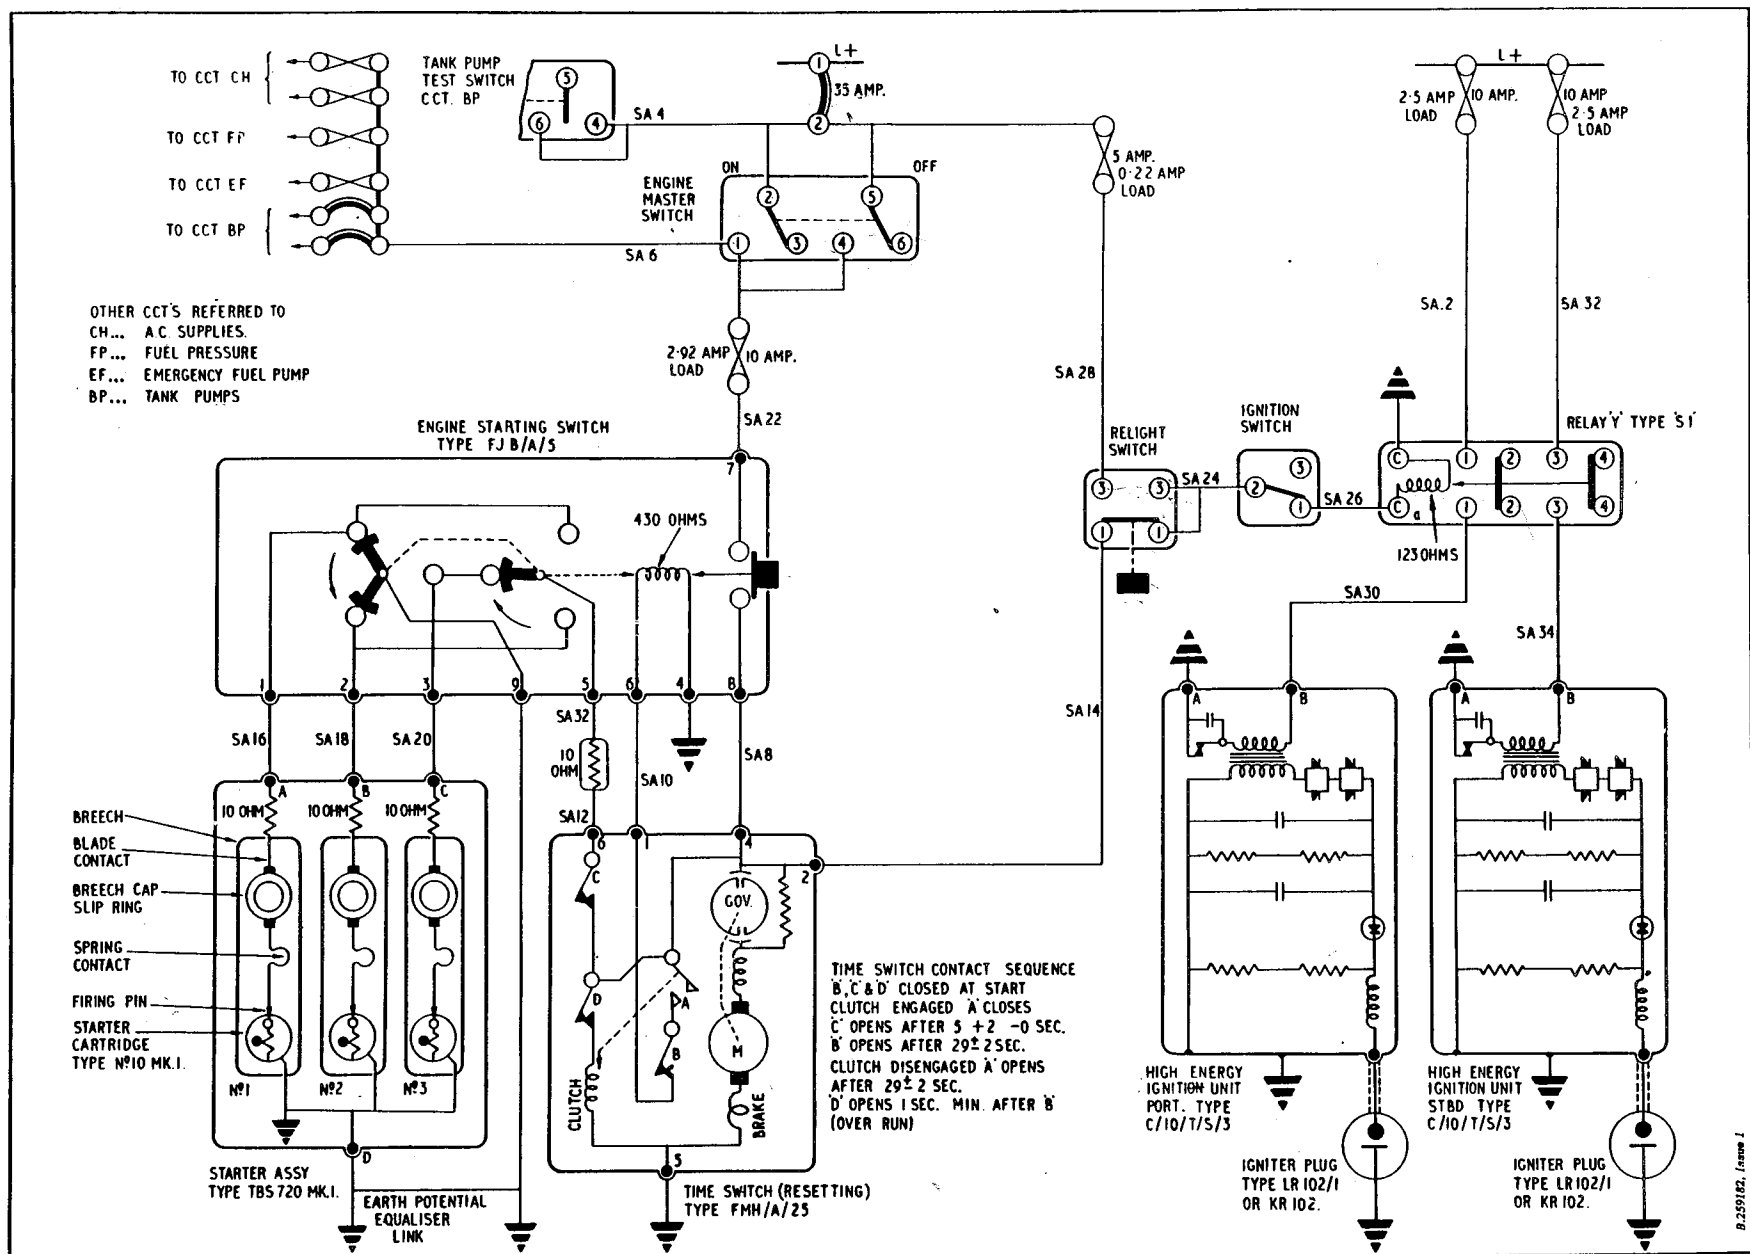

Fig.1 Engine starting (theoretical)
5. At the commencement of the starting cycle, contacts B, C, and D of the time switch (*fig.1*) are all closed, but the clutch is disengaged and contacts A are open. When the engine starting switch push-button is pressed, the firing circuit to one of the three cartridges in the turbo-starter is selected by a rotary selector switch, which is mechanically inter-locked with the push-button. As a safeguard